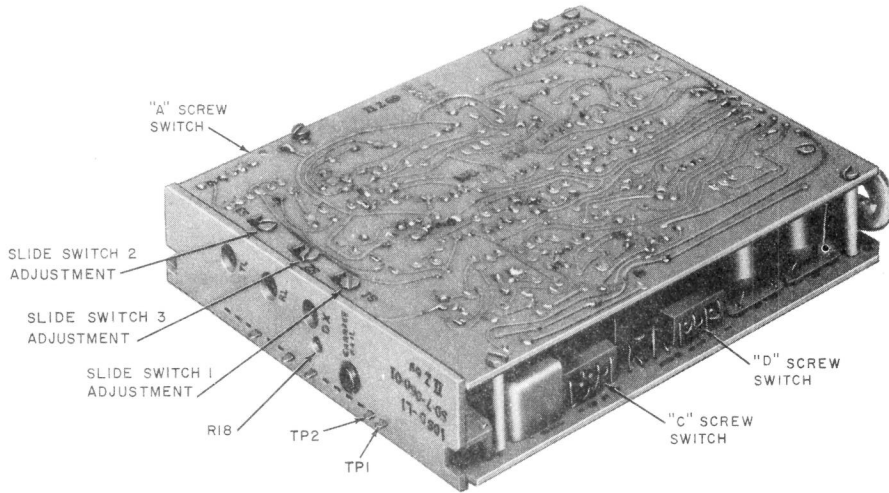
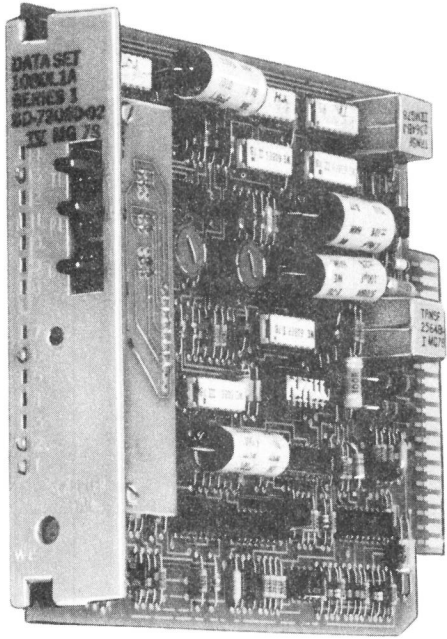

Fig. 1—Data Set 108D-L1
Fig. 3—Data Set 108D-L1A
**1.03** Data sets 108D-L1 and 108E-L1 (Fig. 1 and 2) have been redesigned. The new sets are coded DS 108D-L1A and DS 108E-L1A (Fig. 3 and 4). These sets offer the same features and fit into the same mountings as the MD sets they replace. However, there are small differences between the sets. When necessary to describe these differences the sets will be referred to by full designation (DSs 108D-L1, 108E-L1, 108D-L1A and 108E-L1A).
**2.02** Figures 1 and 2 show all items and designations visible on the faceplates of DS 108D (series 2) and DS 108E (series 1), respectively. Three slide switches (S1, S2, and S3) are visible from the front faceplate of the data set; however, the data set card must be removed from the data auxiliary set in order to change the slide switch settings. The screw holding the slide in place is loosened to slide the switch contact to the proper option as indicated by the tab. After positioning the contact, the screw is tightened (see Fig. 1 and 2).